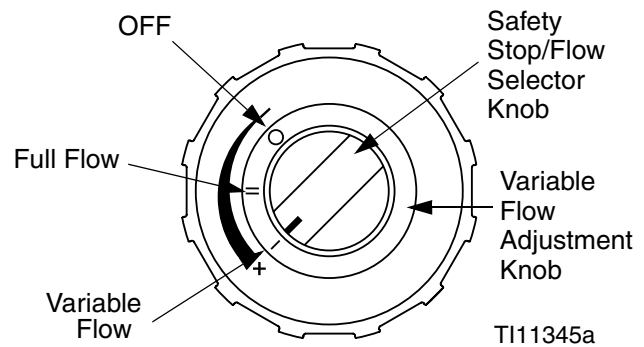

FIG. 27
1. Turn air valve (W) OFF.
2. Turn flow selector knob to variable flow position. See FIG. 27.
To spray a reduced flow pattern, push in and turn flow selector knob to variable flow position. See FIG. 27.
To return to a full flow pattern, push in and turn flow selector knob to full flow position. See FIG. 27.
The variable flow adjustment knob cannot be adjusted when the flow selector knob is in the safety stop position. See FIG. 27.
4. Turn air valve ON, and open fluid valves. Verify that flow selector knob is set to the variable flow position. See FIG. 27.